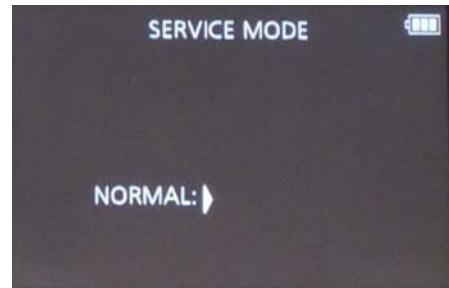

Fig.3-1
- d. Move the [ZOOM LEVER] to “W” side and turn the power on simultaneously.LCD monitor displays “SERVICE MODE” (Fig. 3-1), and then start the automatic adjustment software.